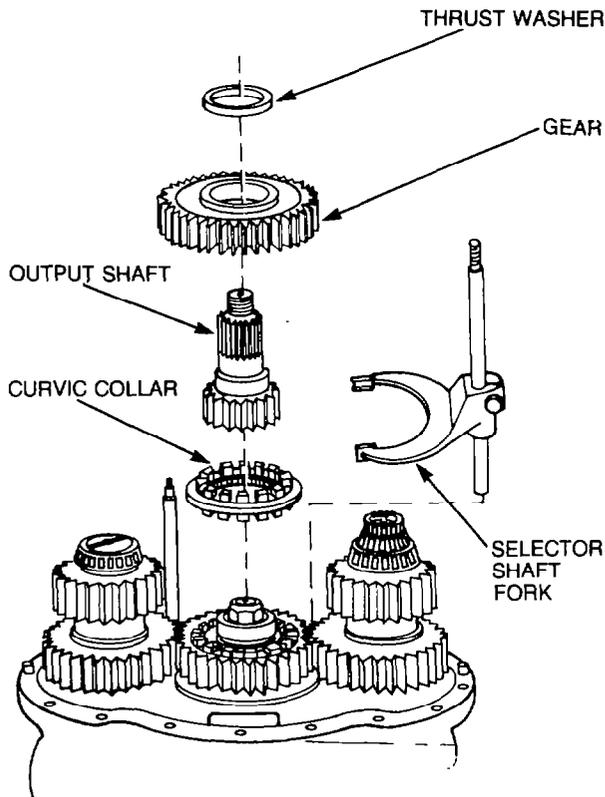

Figure 164 — Low Splitter Gear and Output Shaft — Removal
- m. Remove the thrust washer and low gear from the output shaft, then remove the output shaft, the selector shaft and fork and the curvic clutch collar (see Fig. 164).